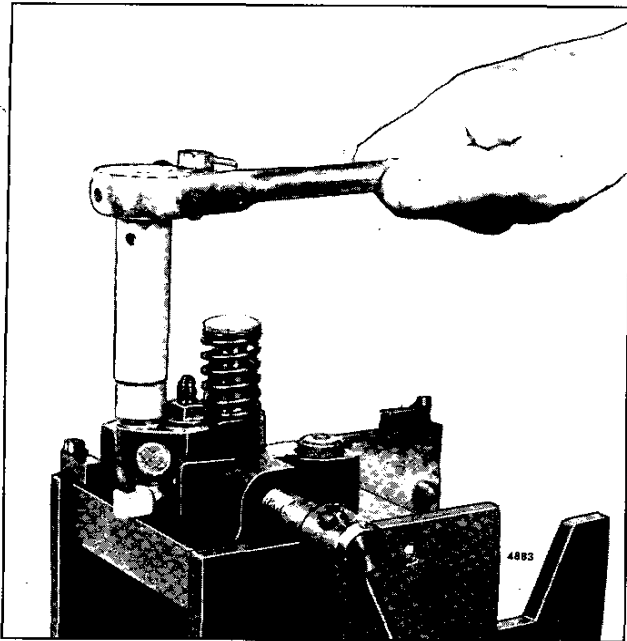

Fig. 8 - Removing Filter Cap
1. Support the injector upright in injector holding fixture J 22396 (Fig. 8) and remove the filter caps, gaskets and filters.